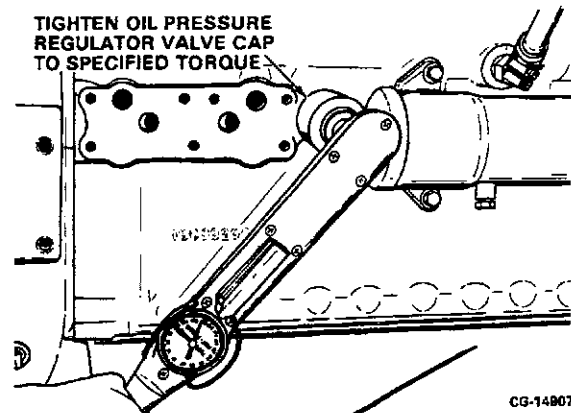

Figure 9.40. Install Oil Pressure Regulating Valve Assembly
2. Using a new regulating cap gasket, install the cap and tighten to the specified special torque. Refer to Figure 9.40.